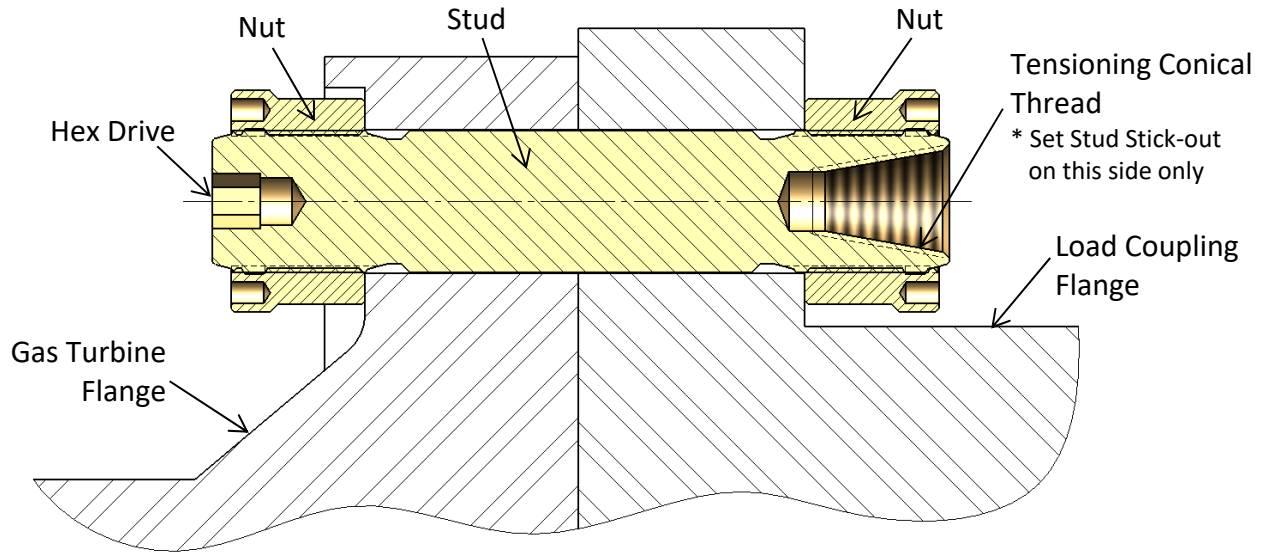

Figure 6A – Cross-section View of Gas Turbine to Load Coupling Bolted Flange Connection
2. Slide the stud and cylindrical nut assembly into the flange as shown in Figure 6A, 6B, 6C, and 6D.